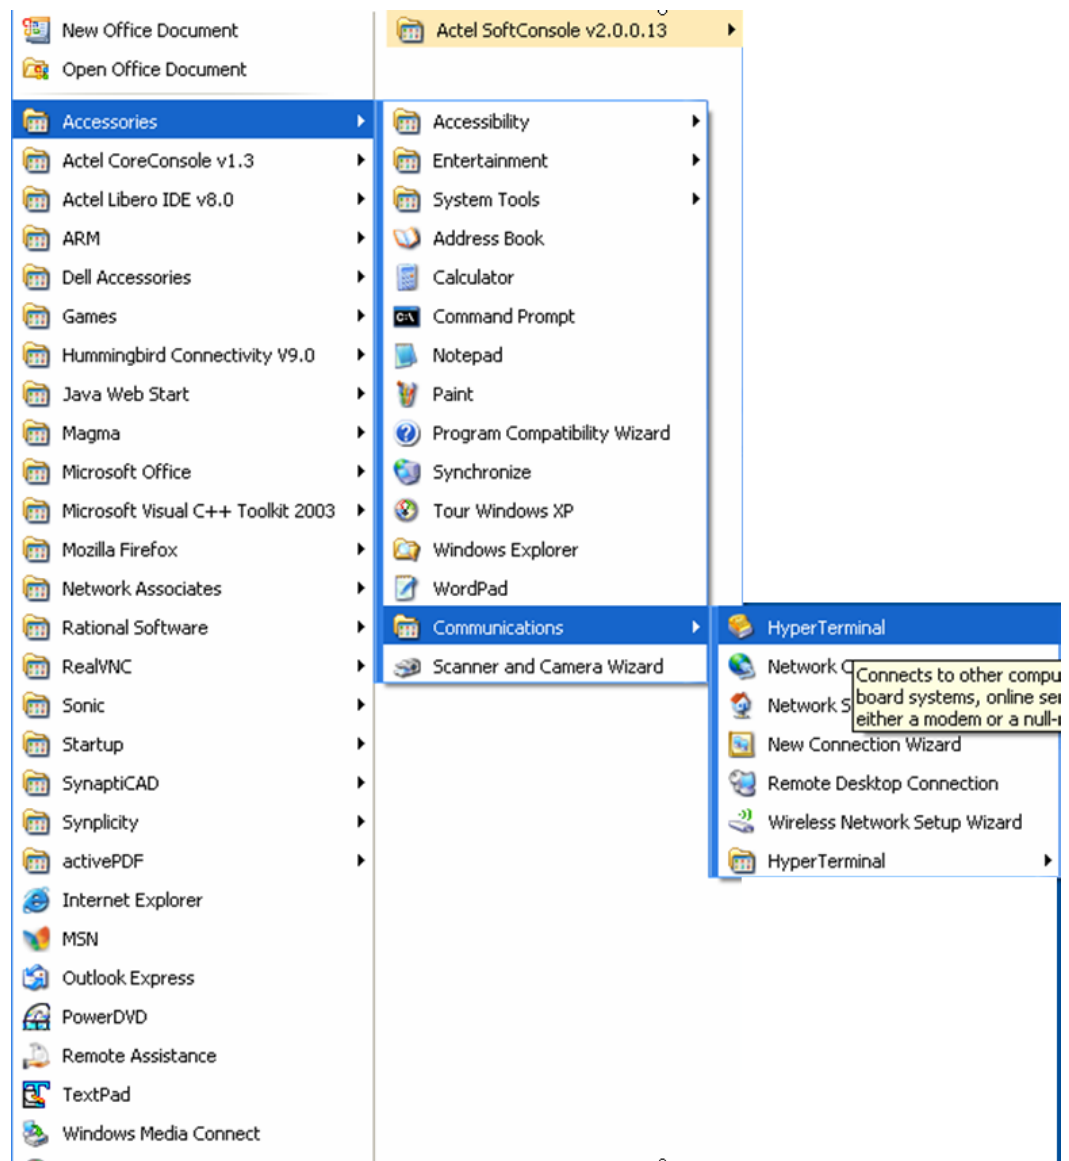

Figure C-5 · Select HyperTerminal
1. Open the Windows start menu. Select **All > Programs > Accessories > Communications** and select the **HyperTerminal** program. This opens HyperTerminal (Figure C-5).